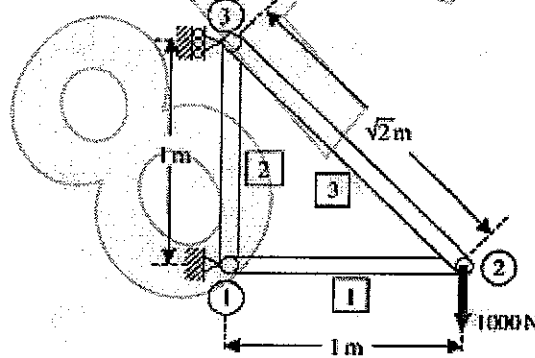

Figure: 1
3. The plane truss shown in Figure 1 is composed of members having 0.1 m^2 cross section and modulus of elasticity $E = 70 \text{ GPa}$.